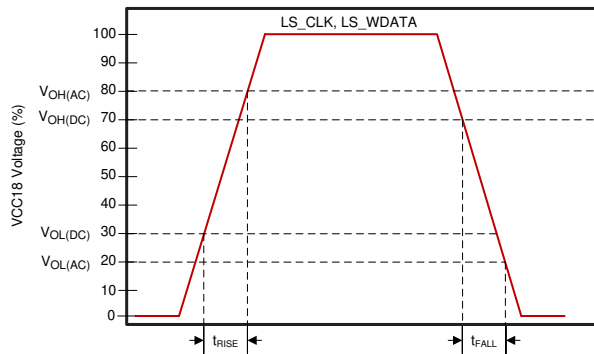
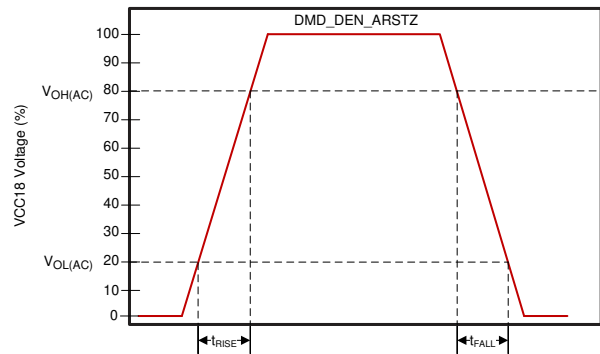

图 5-3. LS_CLK and LS_WDATA Slew Rate
图 5-4. DMD_DEN_ARSTZ Slew Rate
- See 图 5-3 for DMD_LS_CLK, and DMD_LS_WDATA rise and fall times. See 图 5-4 for DMD_DEN_ARSTZ rise and fall times.